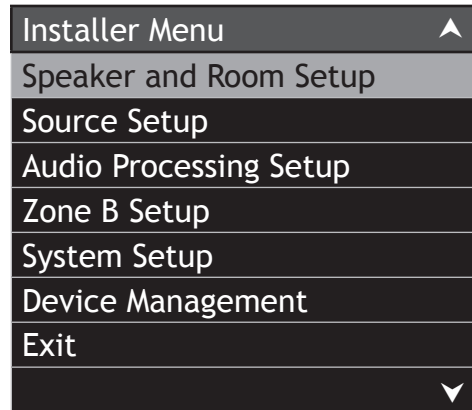

Figure 86
1. Press the SETUP Push-button on the Remote Control. Refer to figure 86.